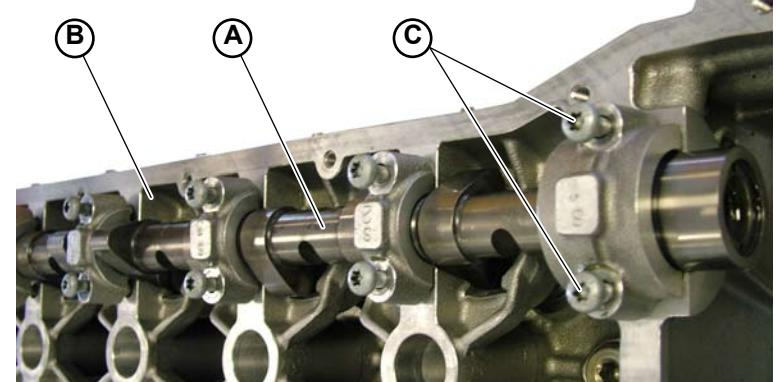

Fig.4
4. Tighten the screws (**C-Fig.4**) of the supports.